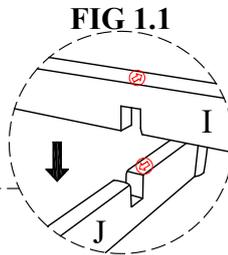

FIG 1.1
Step 1.1 Attach Cross bar upper (I) to Cross bar lower (J) as shown on FIG 1.1